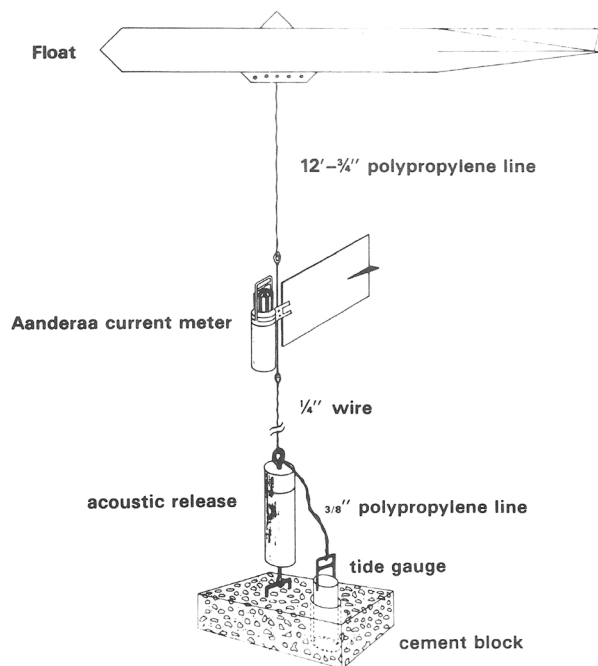

Figure 3. Current Meter Mooring
The tide gauge shown in Figure 3 was part of an experiment to compare near surface currents with cross-strait pressure differences. The link between the two depends upon Coriolis force which is due to the rotation of the Earth and deflects any ocean current to the right in the northern hemisphere (3). In the open ocean away from boundaries, the current generated by the sudden passage of a storm will flow in a cir-
The Juan de Fuca survey was repeated in 1975 with nine Aanderaa current meters on five separate moorings extending from Pillar Point on the United States side to Sheringham Point on Vancouver Island (2,3). The moorings used during this experiment are shown in Figure 3. The float is left 18 metres below the water surface with the Aanderaa current meter just below it. The long fin on the current meter directs the rotor into the flow. Speed, direction, temperature, conductivity and water pressure are recorded on magnetic tape at intervals of 10, 15, 20, 30 or 60 minutes. The mooring is recovered by sending a four tone sonar signal to the acoustic release, which lets go the anchor. Our underwater, internally-recording tide gauges were initially manufactured by Aanderaa, but recently we have purchased some Applied Microsystems gauges. On recent cruises we have substituted shorter aluminum floats for the long steel cylinders shown in Figure 3, and normally place a float at the